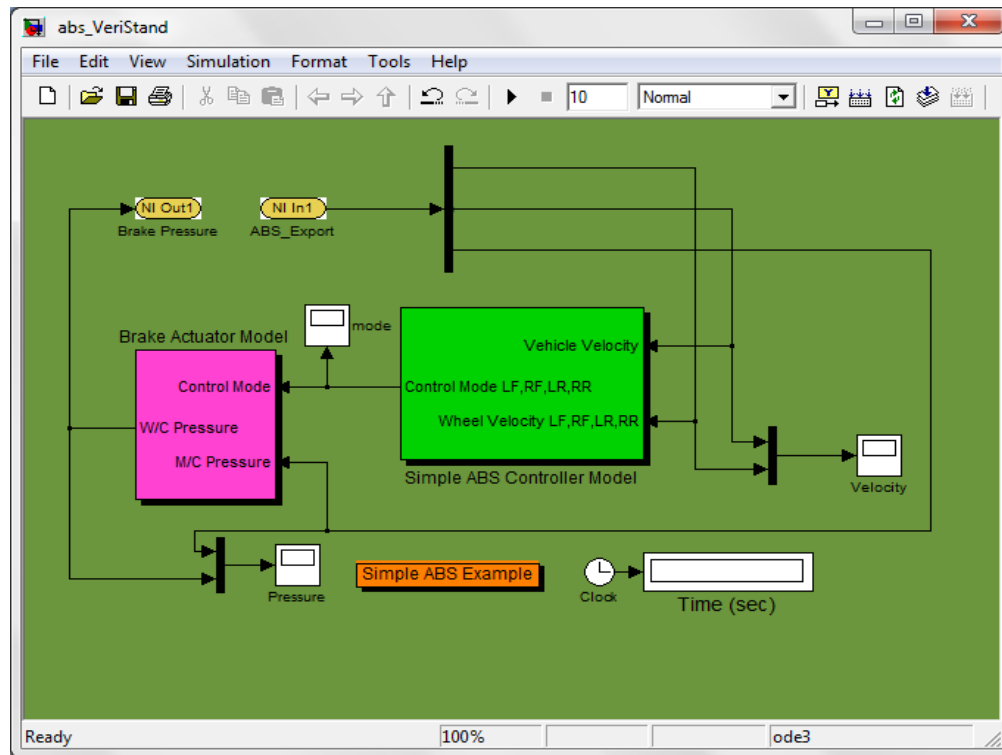

Figure 18. ABS Example Simulink Model for NI RT.
4. Click the **Send to Simulink** button ① to open Matlab and the Simulink model.
8. Open Simulink Library Browser and replace the S-Function you just deleted with the blocks **NI VeriStand Blocks->NIVeriStand In1** and **NI VeriStand Blocks->NIVeriStand Out1** (Figure 18). In this example, **NIVeriStand In1** is renamed as **ABS\_Export** and **NIVeriStand Out1** as **Brake Pressure**.